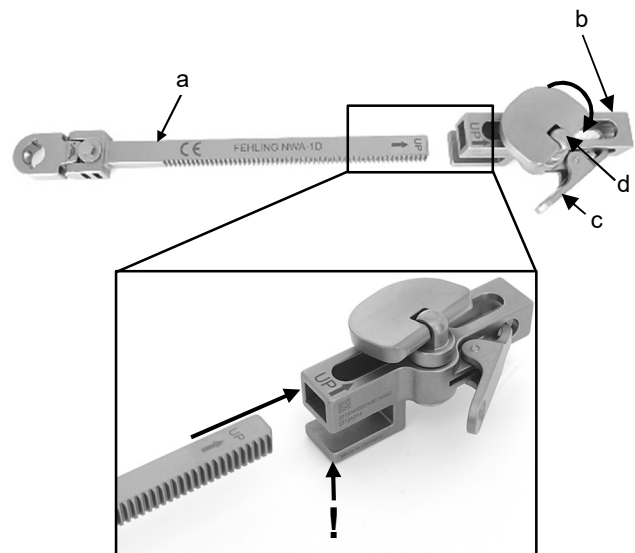

Fig. 22
Both the blade guide (a) as well as the coupling rider (b) have a side marked with an "arrow" and "UP". Before inserting the blade guide (a) into the coupling rider (b), make sure that the two marked sides are facing upwards. The blade guide (a) is inserted into the coupling rider (b) in the direction indicated by the arrow (Fig. 22). The arrow on the coupling rider (b) refers exclusively to the insertion of the blade guide (a) and not for mounting the retractor body.
**Important:** The coupling rider (b) must be aligned such that its U-profile is open in direction of the site (Fig. 22).